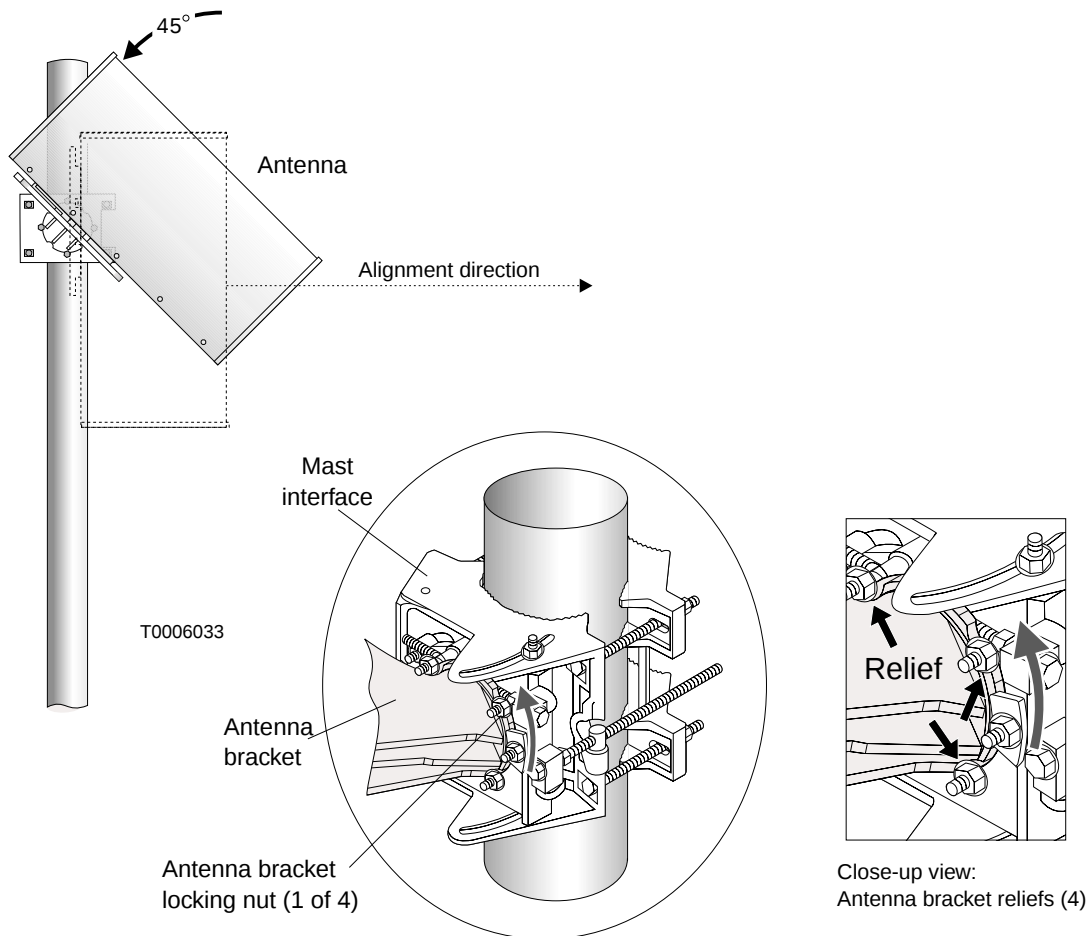

Figure 4-11 Rotating the antenna so the antenna bracket can be placed against the mast interface
2. Rotate the antenna approximately 45° away from the HT alignment direction (assigned sector) until the antenna bracket reliefs (curved indentations) are aligned with the four nuts on the mast interface, as shown in figure 4-11.